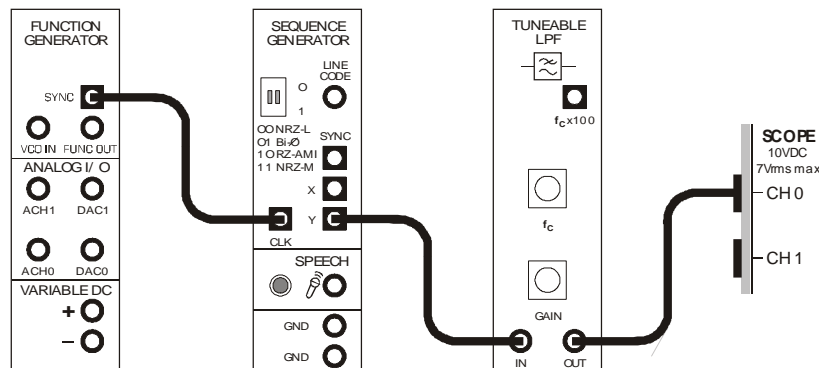
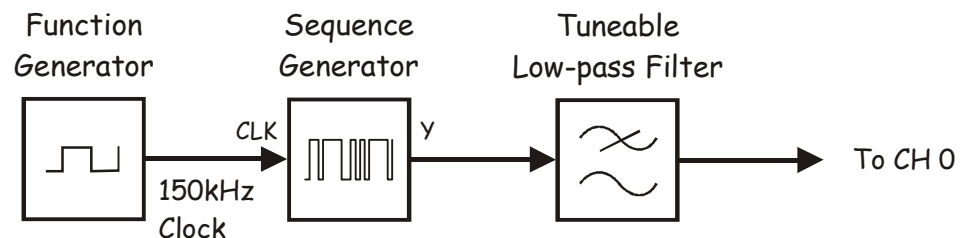

Figure 11
Figure 12
44. Connect the set-up shown in Figure 11 below.
The set-up in Figure 11 can be represented by the block diagram in Figure 12 below. A quick mathematical analysis tells us that, with a 150kHz bit-clock, the spectral composition of the Sequence Generator module's *Y* output includes 255 sinewaves per lobe and so they are separated by 588Hz.